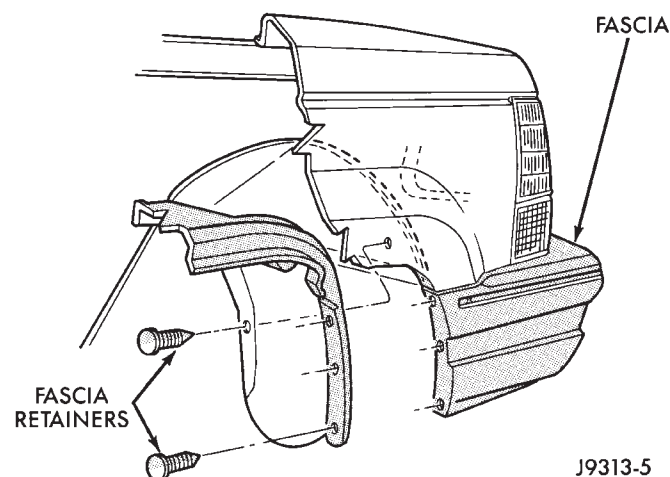

Fig. 3 Wheel Well Retainers
- (5) Remove the plastic rivets at each front wheel well (Fig. 3).